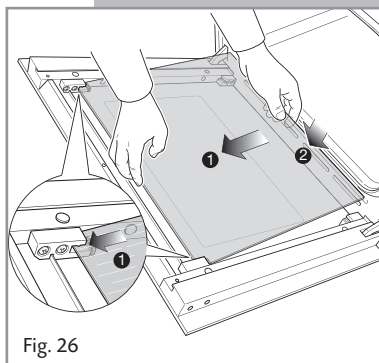

Fig. 26
- Gently insert the top edge of the pane into the top clamps (arrow 1 in fig. 26), then lower the pane and insert the bottom edge into the bottom clamps (arrow 2 in fig. 26); and then slide the pane into position (fig. 27).